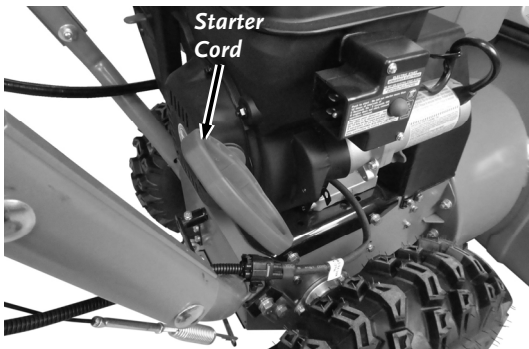

Figure 25
4. Slowly pull the Starter Cord until you feel resistance, then pull quickly (**Figure 25**). The Cord will recoil back into position when released.